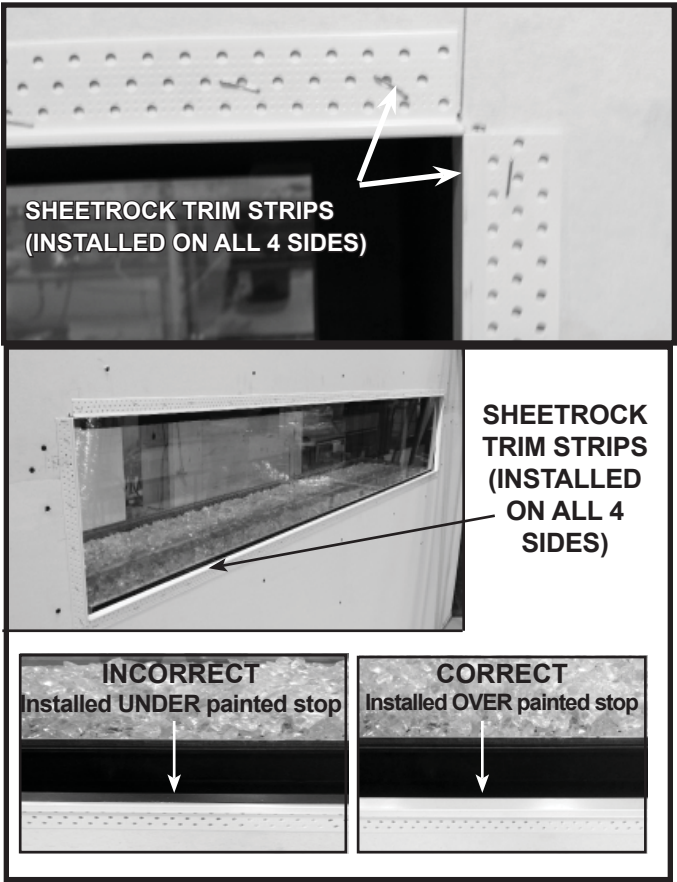

Figure 10.4. Install Sheetrock Trim Strips
- 2. Install sheetrock trim strips as shown in Figure 10.4 on all sides of appliance. Sheetrock trim strips are included with the appliance. Cut the strips to the required length and Install them using staples. See Figure 10.4 for placement of trim strips.